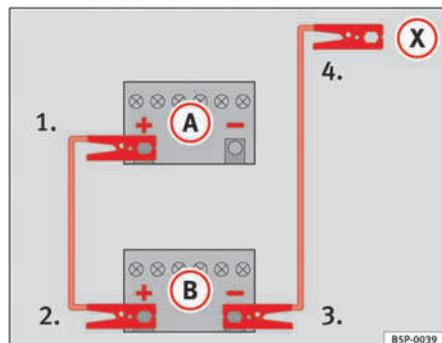

Fig. 158 How to connect the jump leads
In ⇒ fig. 158, the flat battery is **A** and the charged battery **B**.
1. Connect one end of the red jump lead to the positive ⇒ fig. 158 **+** terminal of the vehicle with the flat battery ⇒ ⚠.